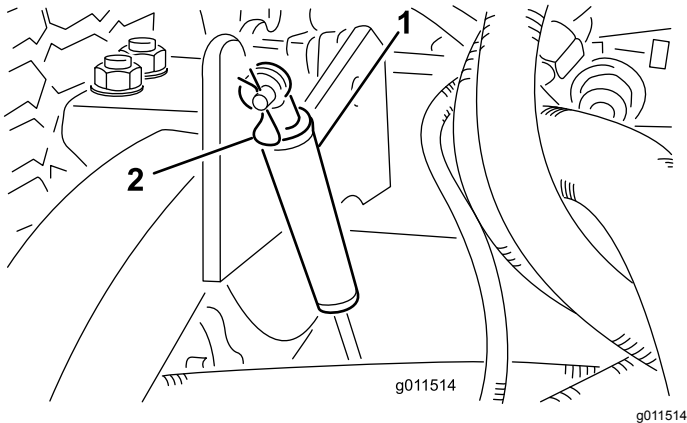

Figure 107
2. Remove the hairpin cotter securing the dampers to lift arms (Figure 107).